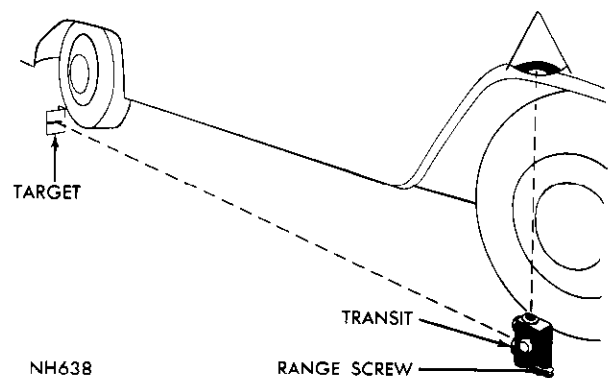

Fig. 1—Determining Slope of Floor
- (1) Place transit on floor in line with vertical centerline of right front wheel (Fig. 1). Place split image target in like position at right rear wheel.
- (2) Adjust range screw on transit until target split image coincides or merges into one unbroken line.